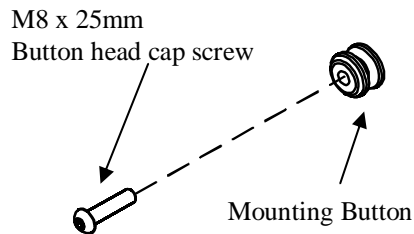
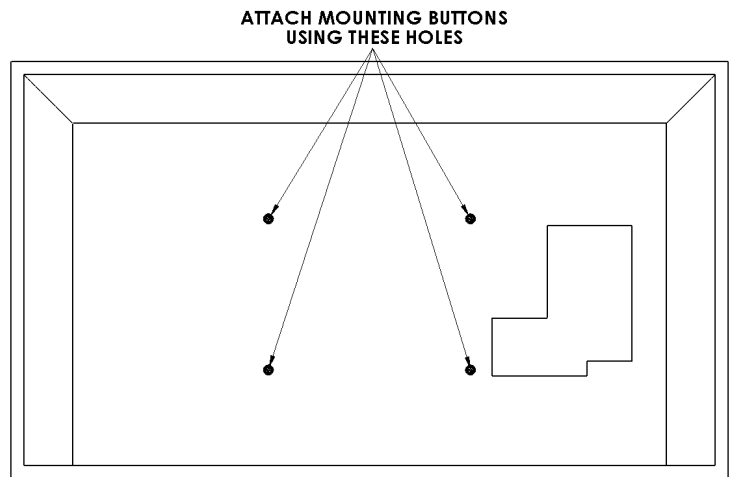

Figure 3
Figure 4
2. Attach mounting buttons to display using four M8 screws provided (see Figure 3 & Figure 4).